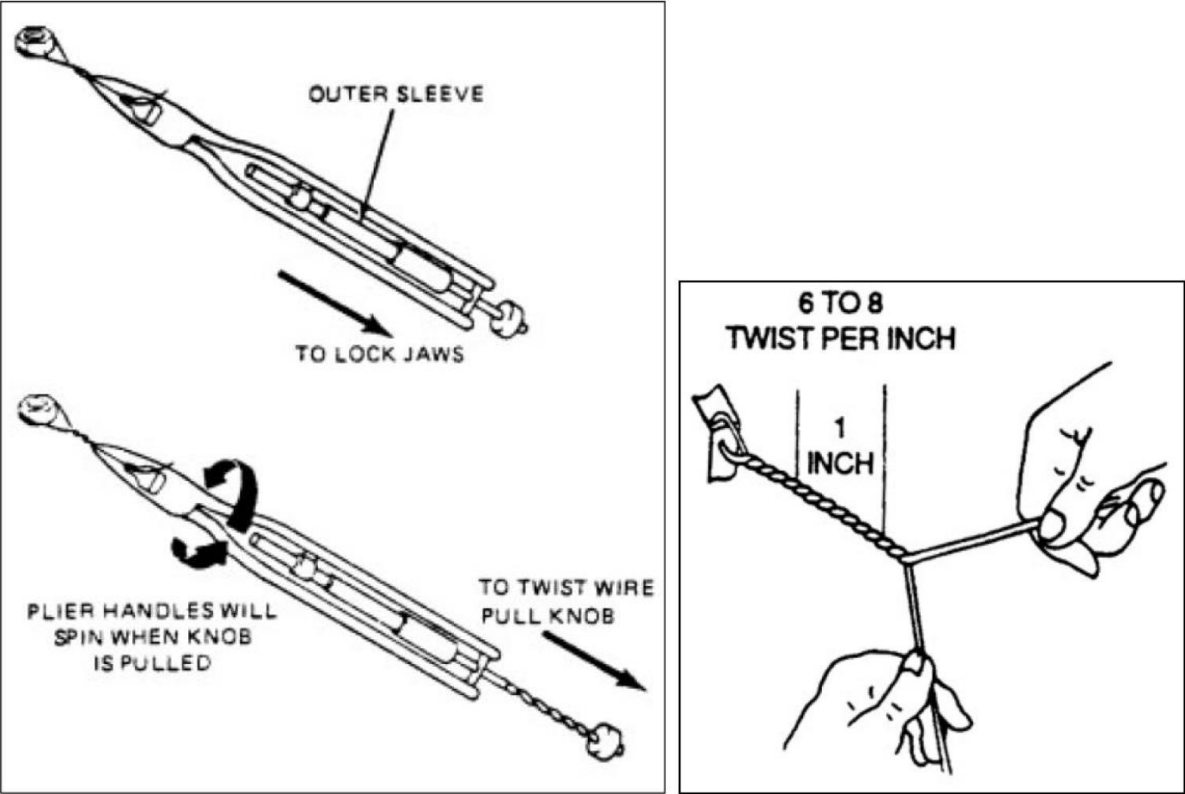

Figure 14 – Safety Wire Installation Using a Twister/Pliers & By Hand
- Safety wire must never be over-stressed. Safety wire will break under vibrations if twisted too tightly. Safety wire must be pulled taut when being twisted, and maintain a light tension when secured (Figure 14).